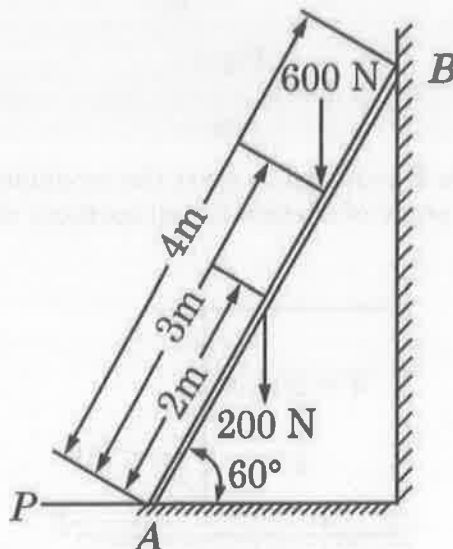

Fig 12
16. (a) A ladder of length 4 m weighing 200 N is placed against a vertical wall as shown in Fig. 12. The coefficient of friction between the wall and the ladder is 0.2 and that between the floor and the ladder is 0.3. The ladder in addition to its own weight has to support a man weighing 600 N at a distance of 3 m from A. Calculate the minimum horizontal force to be applied at A to prevent slipping.